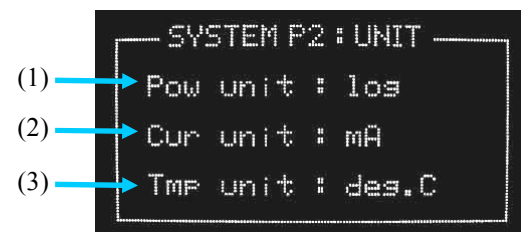

Fig.15 SYSTEM P2 (e.g.)
6.4.2 Page2: Unit details (Fig.15)